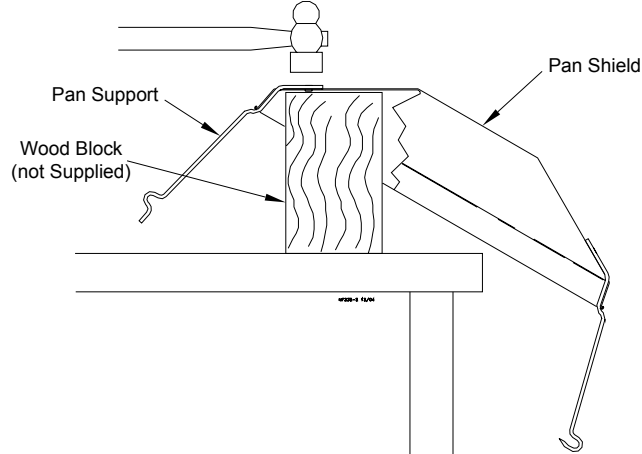

Figure 20. Pan Shield Assembly
1. Attach one swing down pan support and three regular pan supports to the pan shield using rivets supplied. Always attach the swing down pan support at the same location on all pan shields. It will be necessary to support the pan shield while installing the rivets. Use a hammer to drive rivets as shown in **Figure 20**.